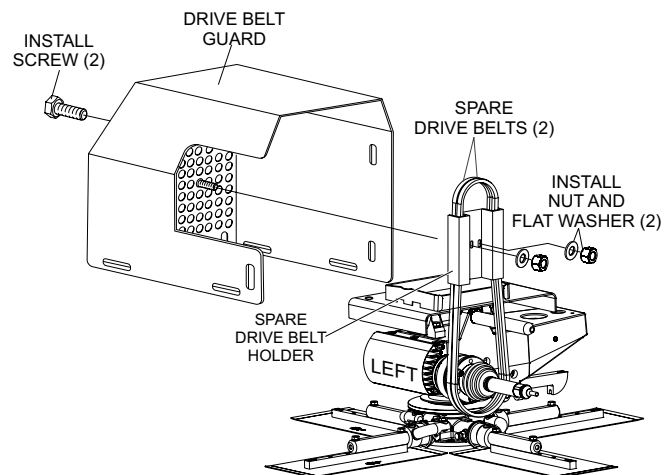

Figure 26. Attaching Spare Drive Belt Holder
- Place both spare drive belts into the spare drive belt holder, as shown in Figure 26. Reattach spare belt holder back onto fuel tank.